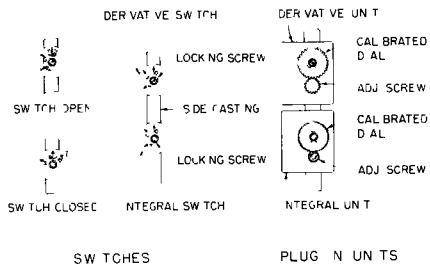
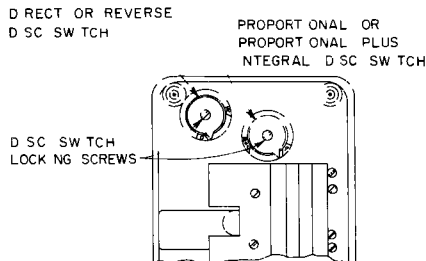

FIGURE 4 Integral and Derivative Switches and Plug in Units
FIGURE 5 Controller Rear View Showing D R and P P+I Switches
1 Set gain at 1.0. (Lock gain arm in place each time it is repositioned.) Set integral or derivative switches or plug in valves (Figure 4), "D R" switch and "P P+I" switch (Figure 5) to positions indicated in Table A and Figure 2.
15 Set integral and derivative control action units, if employed, to desired speed of response by rotating adjustment screw below calibrated dial See Figure 4. (To change integral unit dial range, refer to "Aligning the Controller")
1 Set gain at 1.0. (Lock gain arm in place each time it is repositioned) Set integral or derivative switches or plug in valves (Figure 4), "D R" switch and "P P-I" switch (Figure 5) to positions indicated in Table A and Figure 2
11 Disconnect variable input pressure and gage lines Set integral and derivative control action units, if employed, to desired speed of response by rotating adjustment screw below calibrated dial. See Figure 4
2. Remove four screws (19) in cover (20) and remove cover
3. Remove base (28) and spring (10)
4. To disassemble base (28):
- a. Remove valve cap (14) and O ring (22).
- b. Turn base over and let upper valve seat (13) and upper seat spring (11) fall out of base
- c. Remove valve adjustment screw (12) from valve cap (14) by turning screw clockwise until threads disengage.
5. Hold clamp plate (5) with fingers. With other hand, pull exhaust section (3) away from clamp plate, permitting diaphragm to slip thru center of exhaust section. Remove nozzle section (2) in the same manner by pulling section away from lower seat (8)
6. To disassemble diaphragm assembly (5, 6, 7, 8), remove four screws (18) from clamp plate (5) and carefully pull sections apart.
7. Reassemble the unit in reverse order to disassembly, observing the precautions outlined below. Note that the four sections of the Relay (items 20, 2, 3, and 28 in Figure 5) have a projecting line on one face to serve as an alignment and reassembly guide.
8. Reassemble diaphragm assembly carefully to insure concentric alignment between diaphragms (17) and metal parts (5, 6, 7, 8). Apply Loctite Grade D (Loctite Corporation, Newington, Connecticut) cement to threads of four screws (18) before inserting in threaded holes. (Do not use sealing cement between diaphragms and metal parts.) Tighten screws evenly and gradually to a final torque of eight in lb
9. To reassemble nozzle section (2) and exhaust section (3), slip diaphragm (17) thru center hole of applicable section. Assemble so that indented sides of nozzle and exhaust sections face each other. Make sure that projecting lines on outside faces are aligned.
10. Assemble base (28), spring (10), and cover (20) to subassembly completed in steps 8 and 9. Press sections of Relay together firmly with hands. Make sure that projecting lines on all four sections are aligned.
11. With parts 9 and 11 thru 14 removed from base (28), observe alignment between seat (8) and hole in bottom of base (28). Exhaust valve seat in Item 8 should be centered under hole in base (28). If not, align parts as follows:
12. Remove base (28) and reposition diaphragm assembly (5, 6, 7, 8) slightly to obtain concentricity. (Separate Relay sections (20, 2, 3) slightly so that diaphragms are free to move when position of diaphragm assembly is changed.)
13. Reassemble base (28) and spring (10) to subassembly. Recheck alignment and reposition diaphragm assembly if necessary.